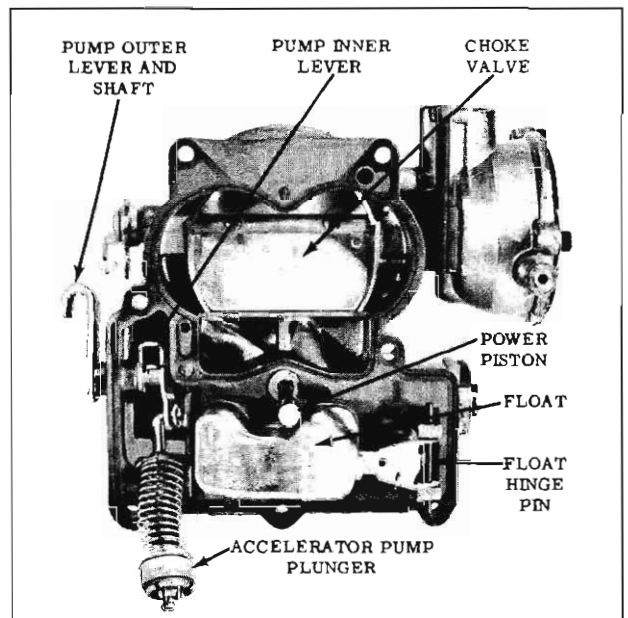

Fig. 4-133 Air Horn Assembly
9. Invert the air horn and place on a flat surface, then remove the float hinge pin, float, and needle assembly. Float needle may be removed from float. (Fig. 4-133)